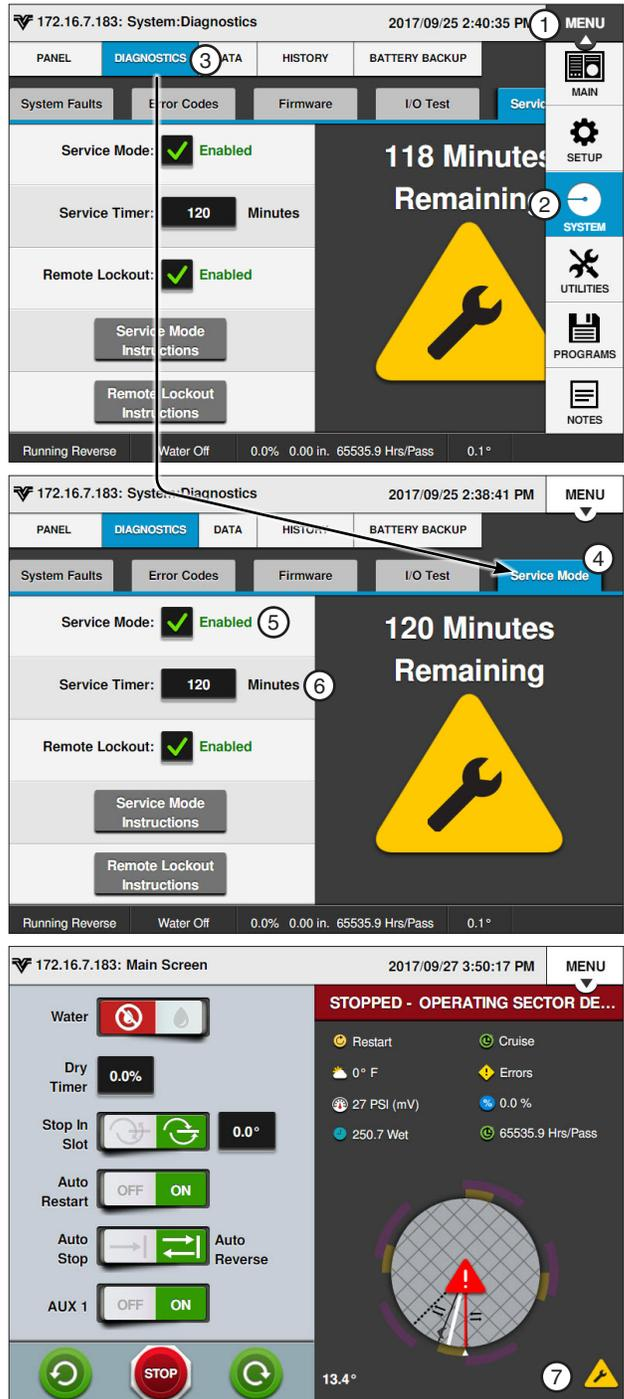

Figure 55-1 1. Menu 2. System 3. Diagnostics 4. Service Mode 5. Service Mode Checkbox 6. Service Timer 7. Service Mode Icon
1. Push **Menu**, **System**, **Diagnostics** and **Service Mode** to view the Service Mode screen. See Figure 55-1.